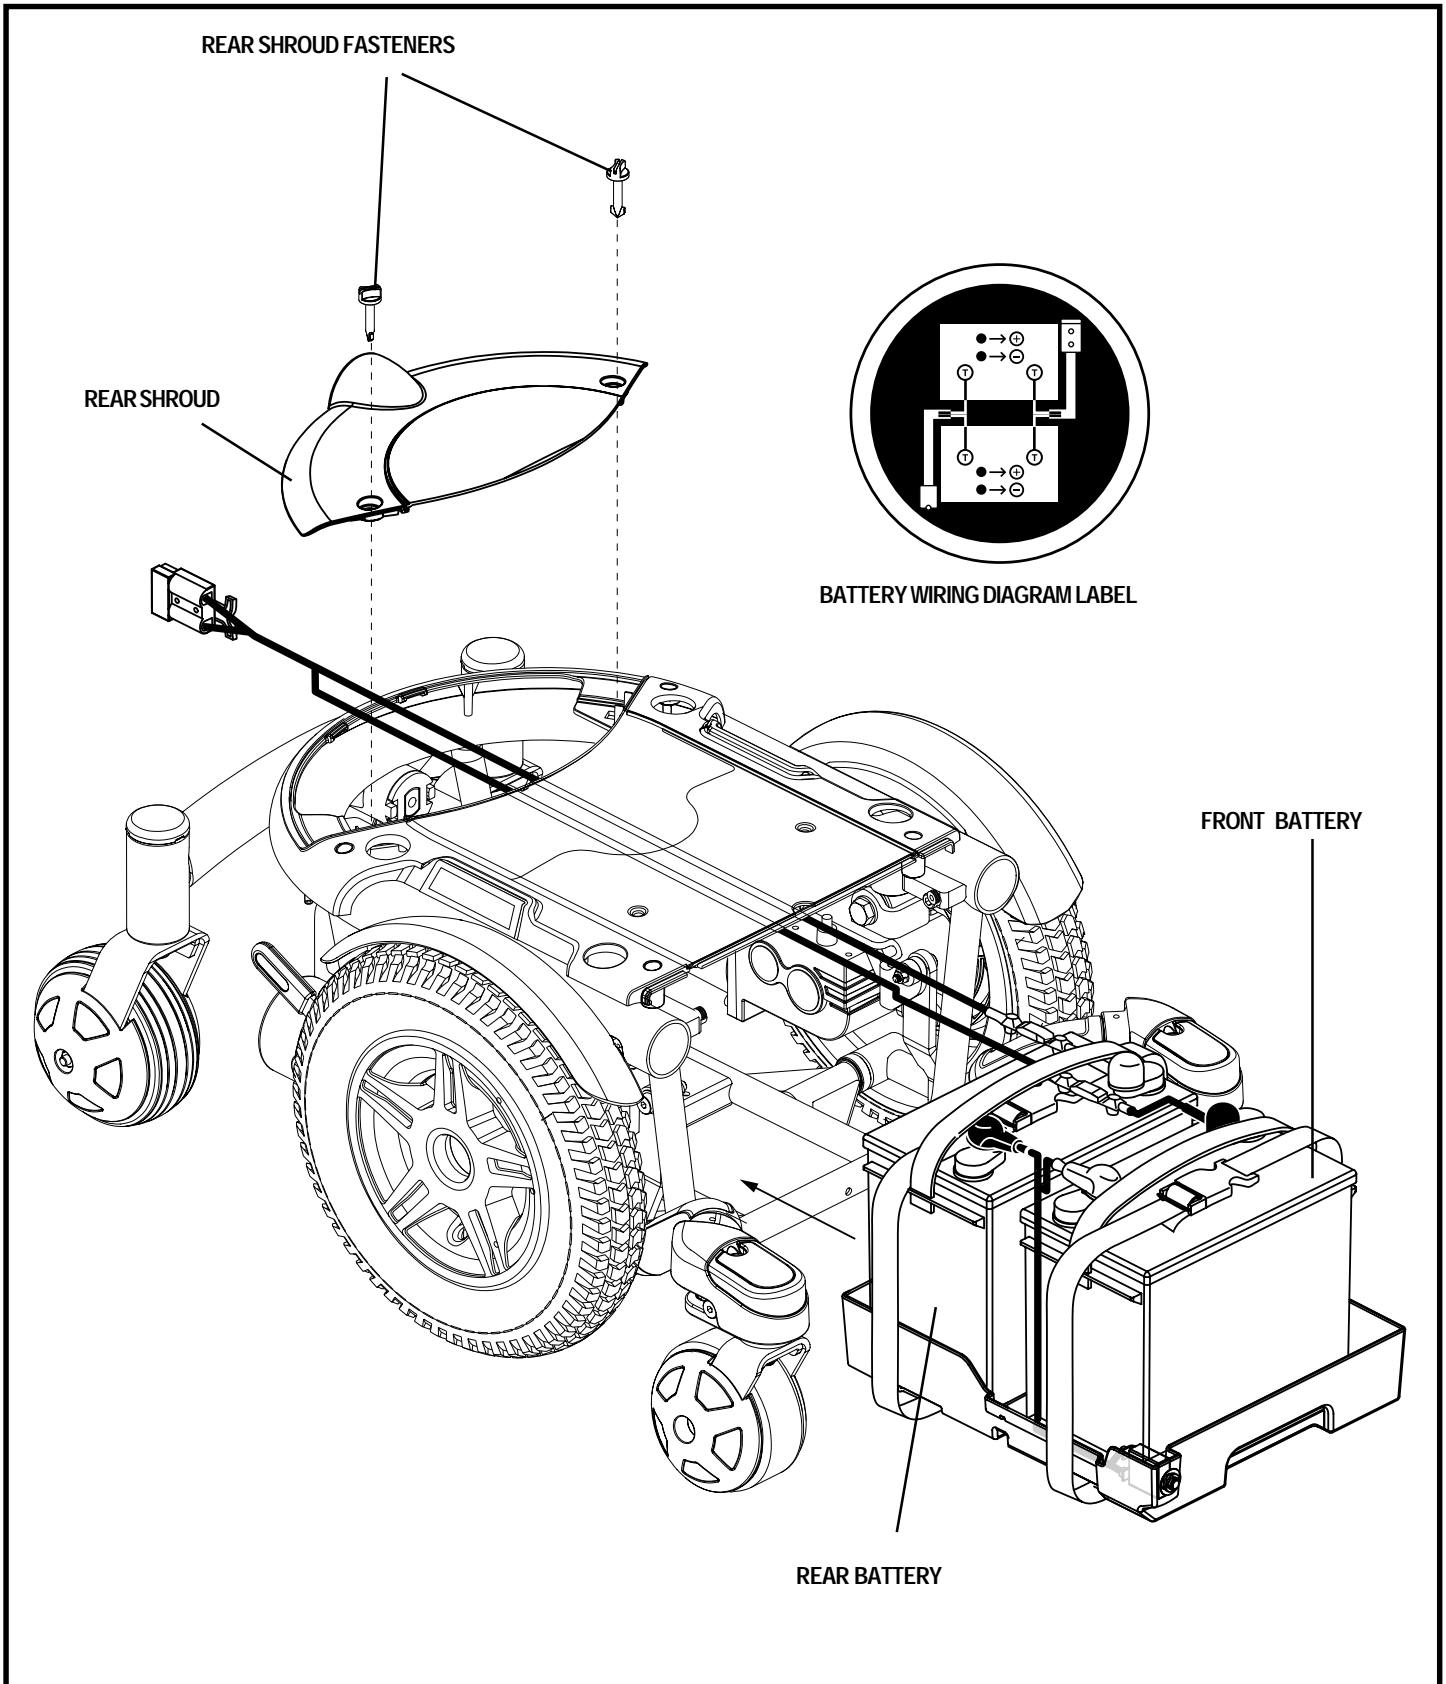

Figure 36. Battery Installation
12. Connect the battery harness to the front battery according to the battery wiring diagram. See figure 36.